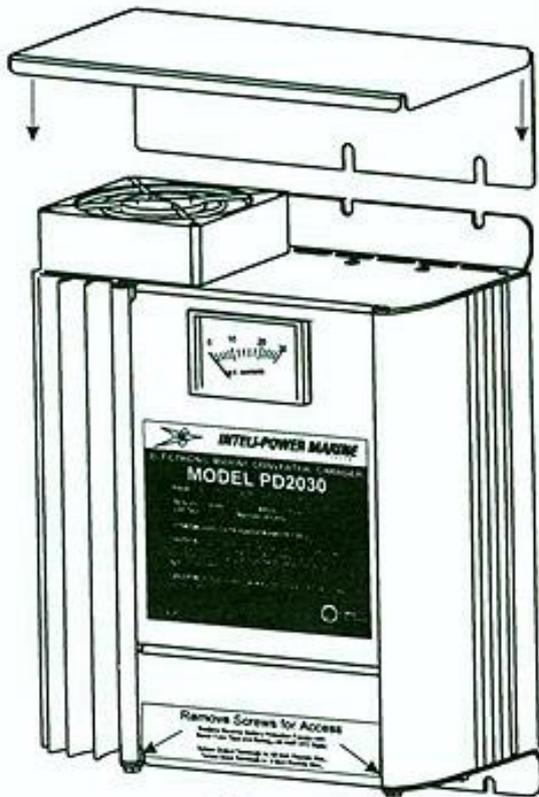

Figure 1
- You can figure 1 hp draw per 25 amps (12 volt) at maximum output.